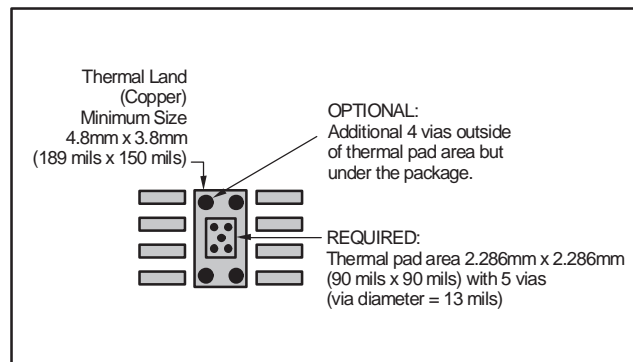

Figure 11. 8-Pin PowerPAD PCB Etch and Via Pattern
2. Prepare the PCB with a top-side etch pattern, as shown in Figure 11. The exact land design may vary based on the specific assembly process requirements. There should be etch for the leads as well as etch for the thermal land.
3. Place the recommended number of plated-through holes (or thermal vias) in the area of the thermal pad. These holes should be 13 mils in diameter. They are kept small so that solder wicking through the holes is not a problem during reflow. The minimum recommended number of holes for the SO-8 PowerPAD package is 5, as shown in Figure 11.
4. It is recommended, but not required, to place a small number of additional holes under the package and outside the thermal pad area. These holes provide additional heat paths between the copper thermal land and the ground plane. They may be larger because they are not in the area to be soldered, so wicking is not a problem. This is illustrated in Figure 11.